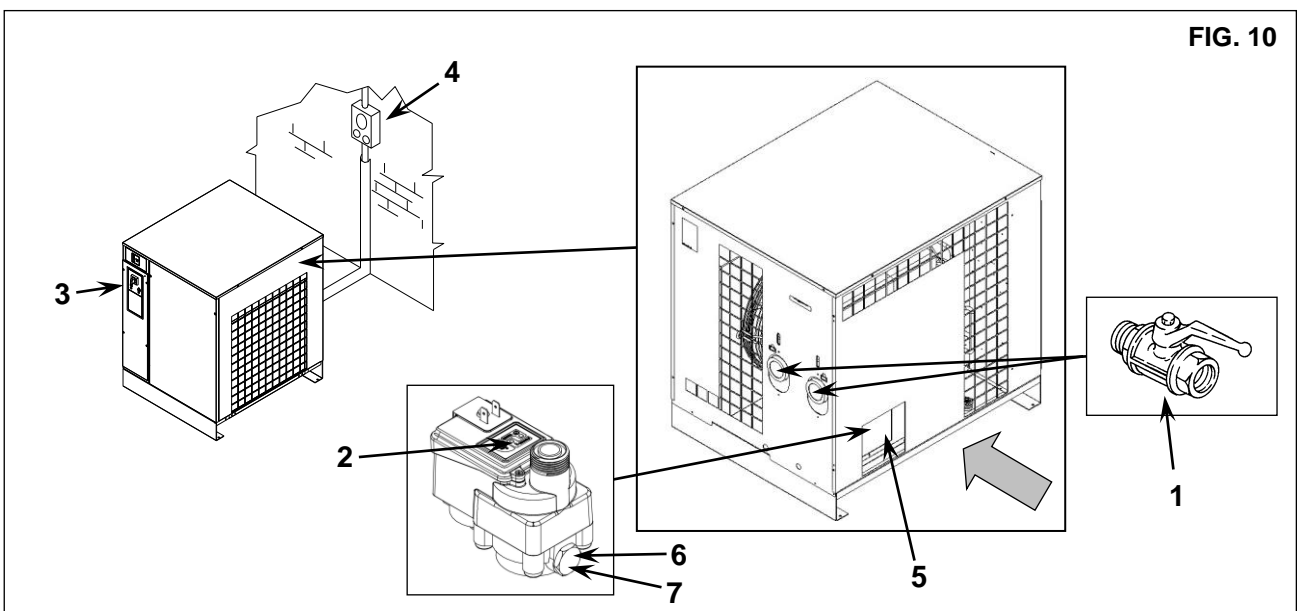

FIG. 10
### 16.2 CLEANING OF THE AUTOMATIC CONDENSATE DISCHARGER FILTER (Fig. 10)
- Close the cock Ref. 1 Fig. 10
- Release the pressure in the dryer by pressing the condensate drain "TEST" pushbutton located on the steam trap Ref. 2 Fig. 10.
- Switch off the machine. Turn the switch in position STOP Ref. 3 Fig. 10
- Turn on the supply automatic differential switch Ref. 4 Fig. 10
**16.3 CLEANING THE CONDENSER (Fig. 10)**
- To use the hole Ref. 5 Fig. 10
- Clean the condenser fins Ref. 1 with compressed air (Fig. 10) **DO NOT USE WATER OR SOLVENTS**
- Close the panels Ref. 5 Fig. 10